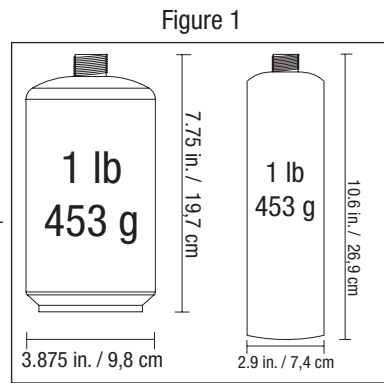

Figure 2
1. Make sure the regulator/control knob is in the "OFF"  position. (Figure 2)
1. Turn the regulator/control knob to the "OFF"  position. (Figure 2)
2. Make sure regulator/control knob is in the "OFF"  position. (Figure 2)
5. The regulator/control knob must be in the "OFF"  position. (Figure 2)
1. Turn regulator/control knob to the "OFF"  position. (Figure 2)